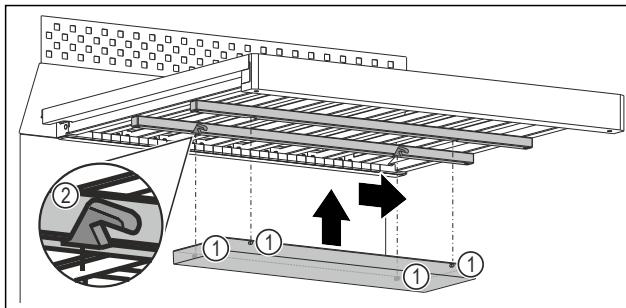

Fig. 110 Example illustration
- ▶ Insert each peg Fig. 110 (1) into the corresponding recess Fig. 110 (2) on the strips under the wooden grate.